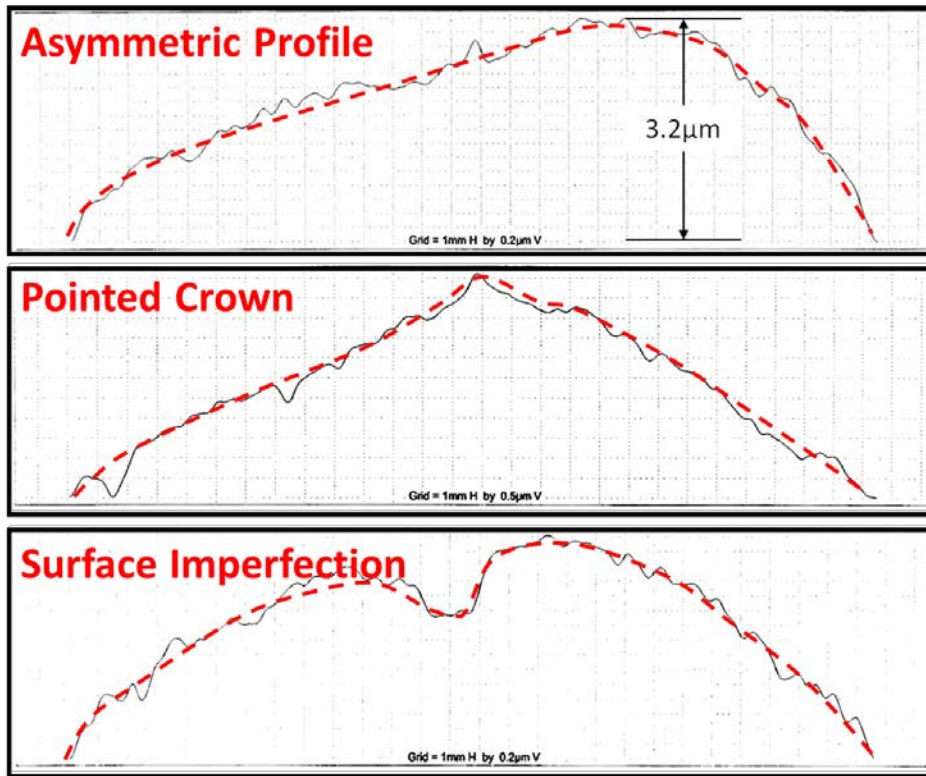

Figure 8 – Examples of Unacceptable Lifter Traces
4.13.3. Reject any lifter with surface irregularities that prevent it from having a continuous and symmetric crowned profile (examples shown in Figure 8).